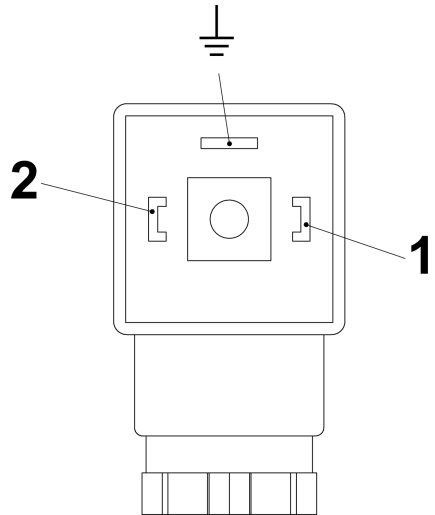
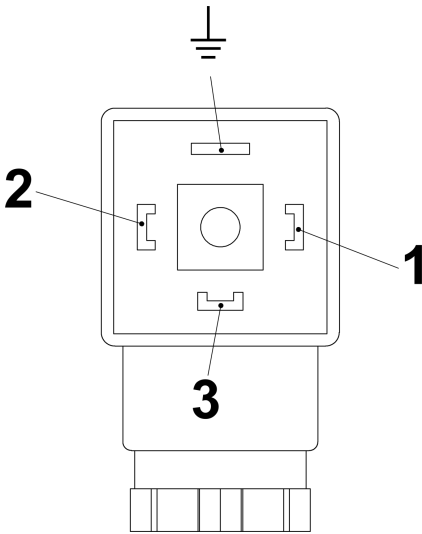

Fig. 27: Pin assignment, plug socket, Normally-Open contact (SG-30 with connector in compliance with EN175301-803)
Fig. 28: Pin assignment, plug socket, Change-Over contact (SG-30 with connector in compliance with EN175301-803)
6. ➤ Make the connections as shown in the connection diagrams (Fig. 27 and Fig. 28)